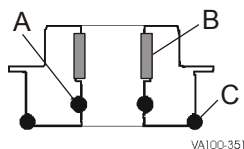

Figure 25 - Standard Top Adapter
2. Remove and replace the O-ring(s) (Figure 25, item A) inside the adapter. For the flush/steam barrier adapters, see Figure 5 on page 10 and Figure 6 on page 10, respectively.
3. Check the split bearing (Figure 25, item B) inside the adapter by feeling the amount protruding from the adapter wall. If the bearing is flush with the wall, replace the bearing.
2. Slide or cut the outer O-ring (Figure 25, item C) off the adapter. Do not nick or scratch the O-ring groove.